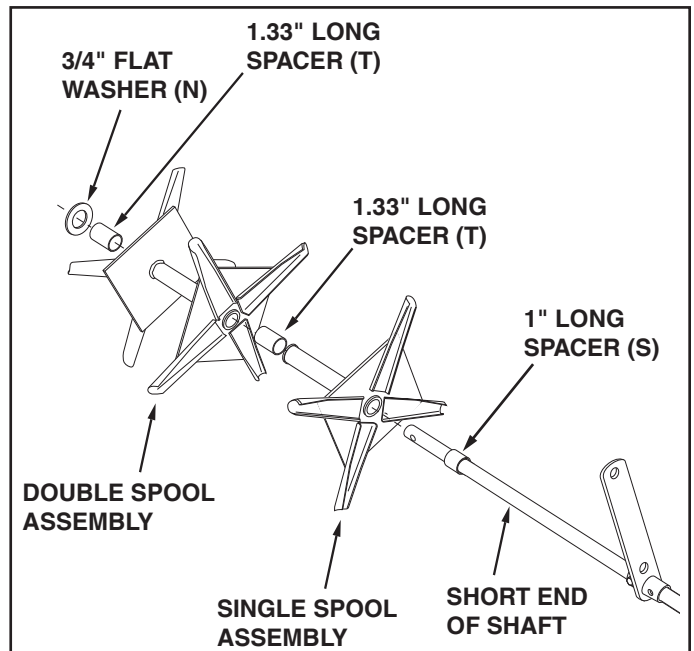

FIGURE 3
3. Identify the short end of the shaft. Assemble a 1" long spacer (S), a single spool assembly, a 1.33" long spacer (T), a double spool assembly, another 1.33" long spacer (T) and a 3/4" flat washer (N) onto the **short end** of the shaft. See figure 3.